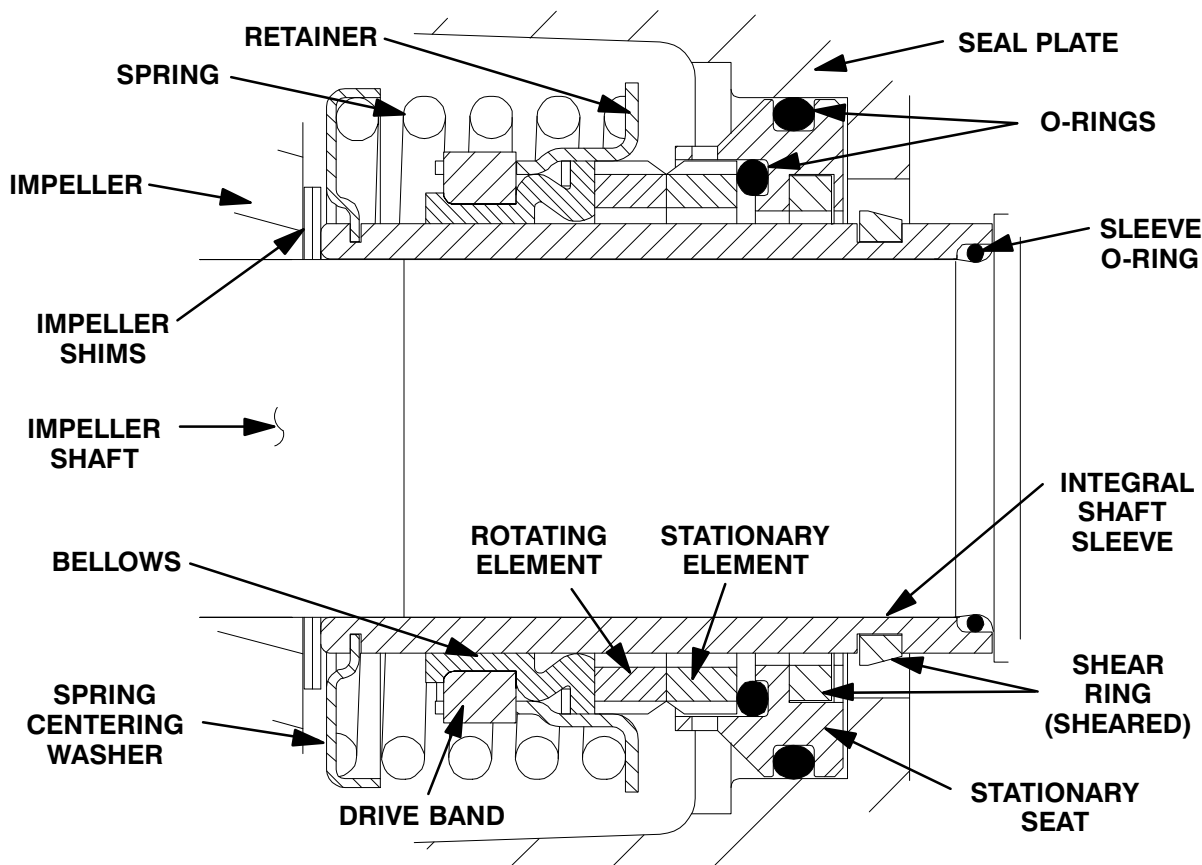

Figure 8. Cartridge Seal Assembly
To ease installation of the seal, lubricate the shaft sleeve O-ring (14) and the external stationary seat O-ring with a very **small** amount of "P-80[®] Emulsion" or water. See Figure 8 for seal part identification.